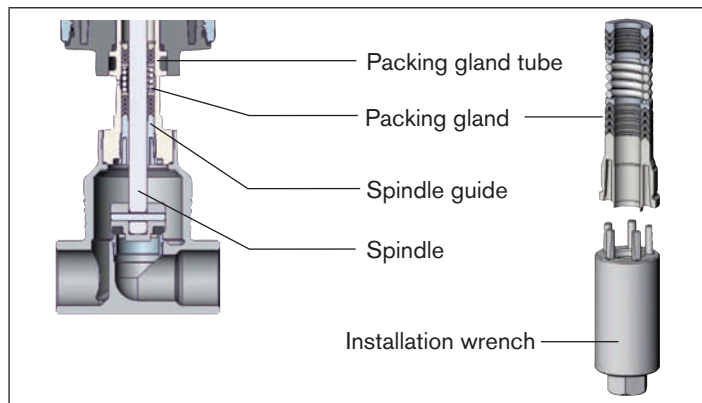

Fig. 27: Replacing packing gland
- To replace the packing gland, use a special installation wrench (see "Fig. 27: Replacing packing gland").